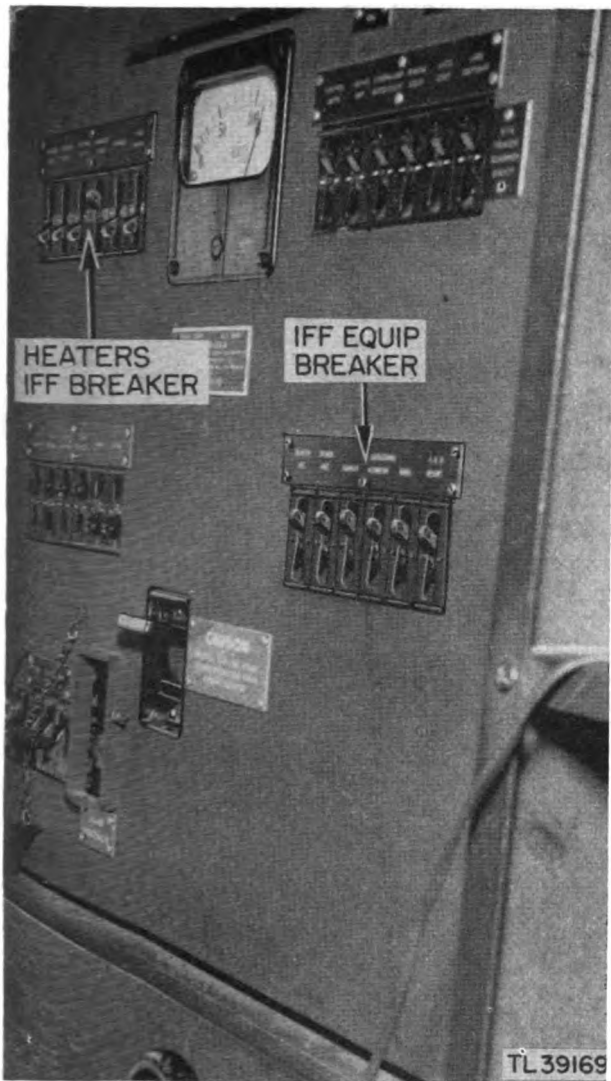

Figure 69. Power Panel BD-125-A.
- a. Turn on the switch marked IFF on the power panel of Radio Set SCR-545-A (fig. 69). This switch controls power to Rack FM-79.